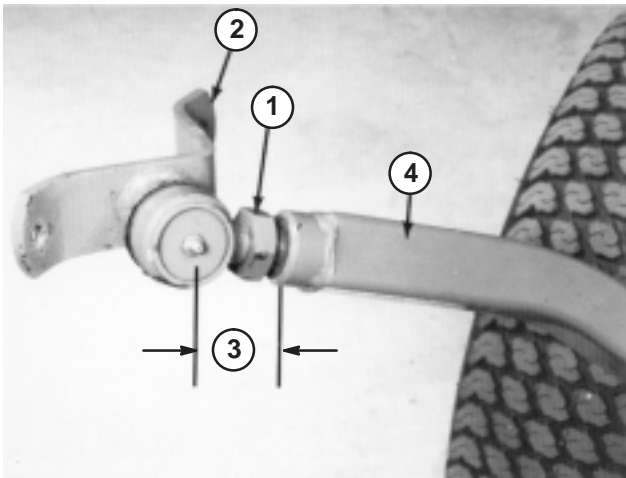
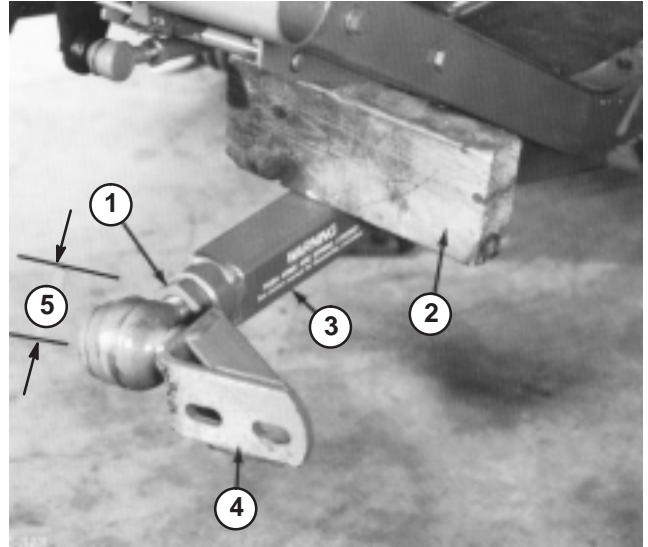

Figure 10
Figure 11
2. Screw ball joint into right hand push arm until center of ball joint is 2-3/8 inches (60 mm) away from front of push arm (Fig.10). Do not tighten jam nut.
4. Have a helper push down on the left push arm. Then insert a 2 x 4 in. (51 x 102 mm) block of wood between the frame and top of the push arm (Fig. 10). Screw ball joint into left hand push arm until center of ball joint is 2-3/8 inches (60 mm) away from front of push arm (Fig.11). Do not tighten jam nut.